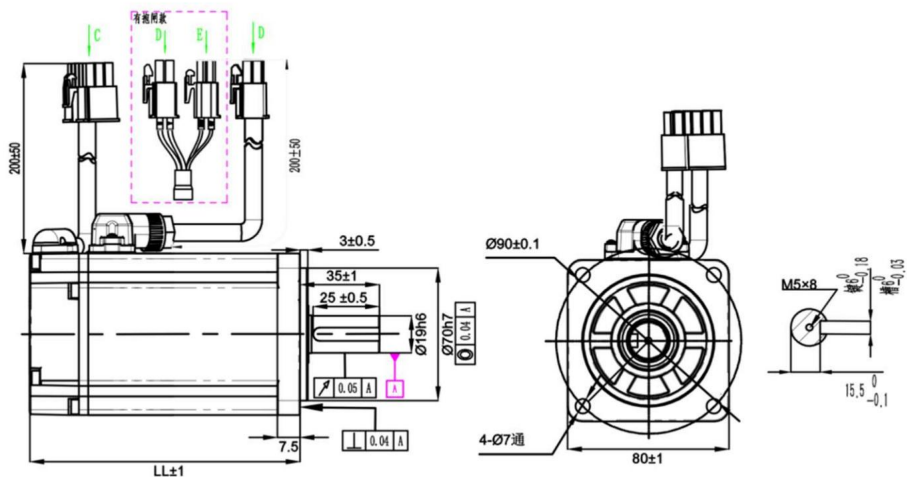

Figure 3.3 80 motor and Table 3-2
• 80 flange motor installation dimensions (see Figure 3.3 and Table 3-2)